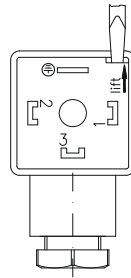

Fig. 5.2.2
- ↪ Open the core ⑧ of the cable socket ② with a screwdriver or similar tool (→ Fig. 5.2.2).